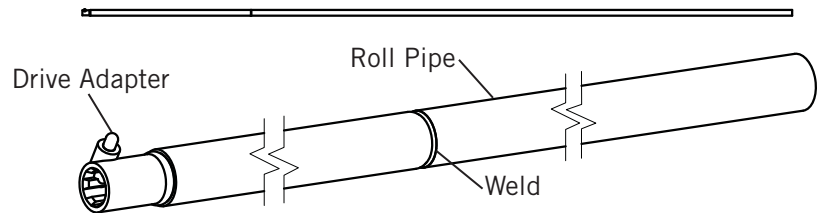

Figure 49
- 1) **See Figure 49.** Insert swaged end of the tube adapter assembly into the front end of the roll pipe and weld in place.